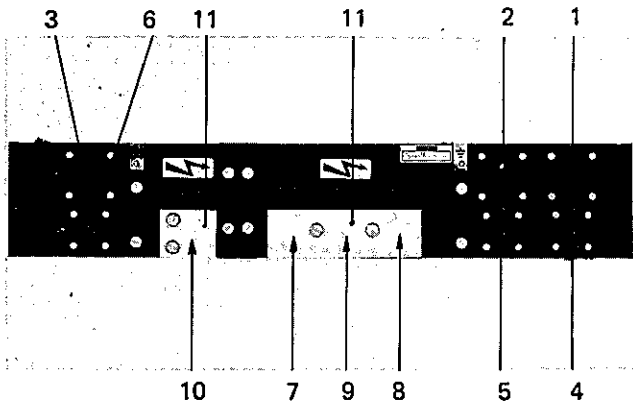

Fig. 3 Rear panel EHU 103
- c Connect the HV 0 output of the high voltage relay to the HV 0 output on the rear panel of the basic unit (see Fig. 3, item 7 and the enclosed diagram for the EHV 103).